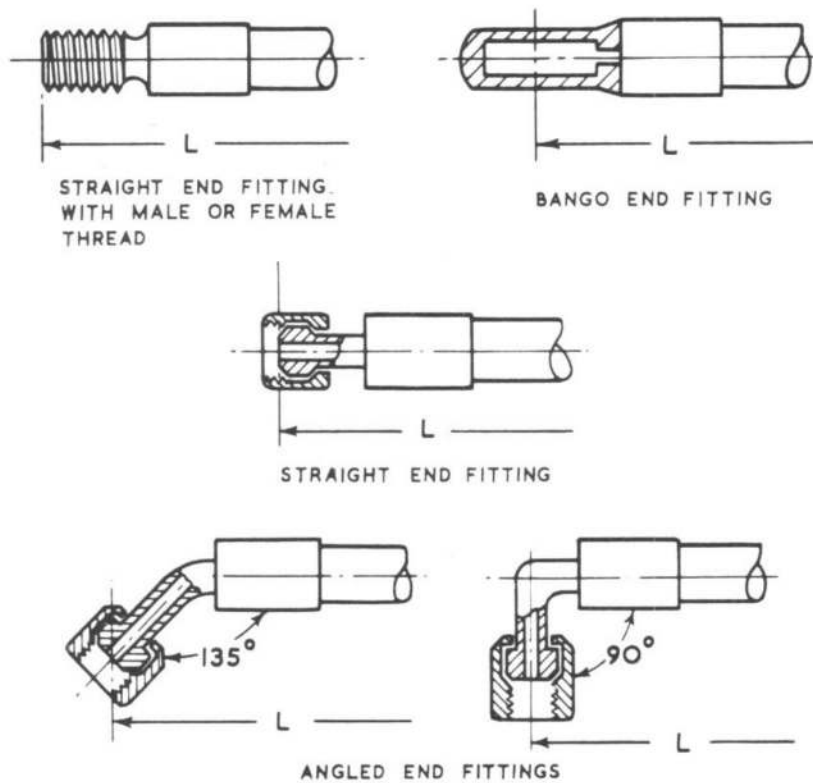

Fig.1 Measurement of hose assembly length
2. The length of a hose assembly is measured between the two points at which the connection sealing surfaces intersect the centre line of the bore (fig. 1).